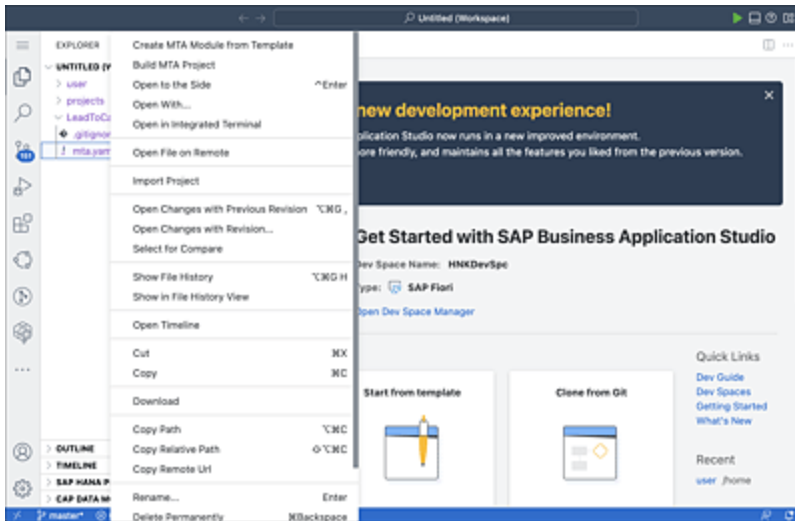

Figure 18.3 Create a Workflow Module (Part 1)
4. Right-click on the *mta.yaml* file created in the MTA project, and select **Create MTA Module from Template** (see Figure 18.3).